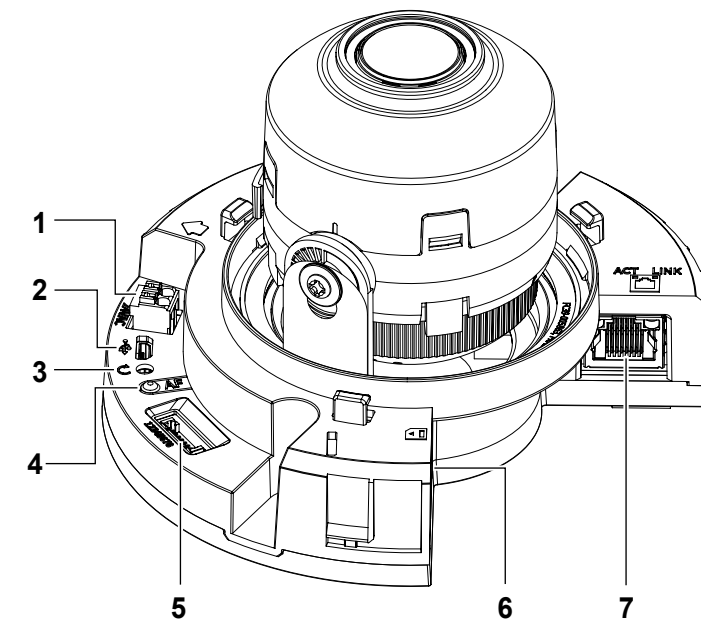
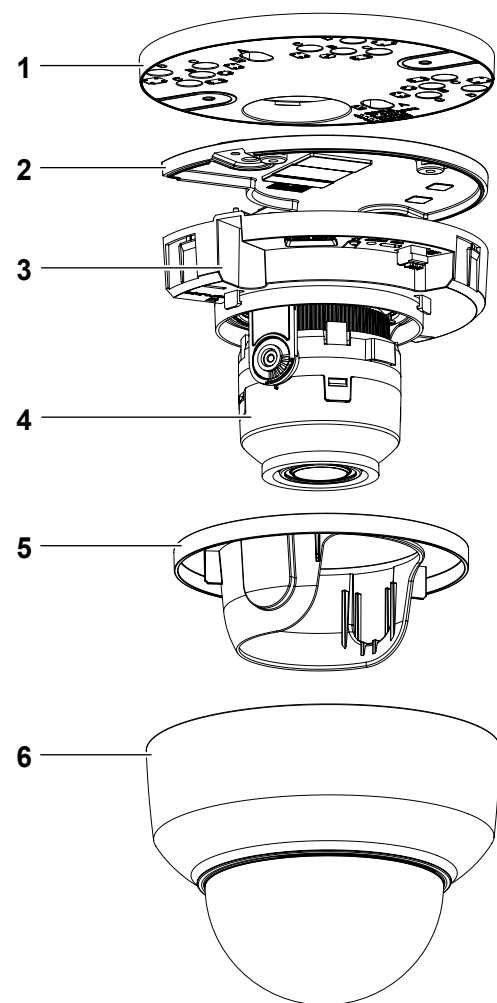

Figure 2
Figure 1
13. Hold the camera dome (6) (Figure 1) up to the camera base and rotate the camera dome to securely lock it to the camera base.
Camera buttons and connections: Figure 2
Camera Parts: Figure 1
5. Gently pull up and remove the camera lens cover (5) (Figure 1) to easily access the cable connections and buttons.
7. Before you secure the mounting plate (1) (Figure 1) to the camera base (2) (Figure 2) you must place the cable through the cable hole on the camera mounting plate.
12. Insert the camera lens cover (5) (Figure 1) on to the camera lens.
- Hold the camera dome (6) (Figure 1) with one hand and rotate the camera base (2) (Figure 1) to unlock it and remove it from the dome.
- Hold the camera dome (6) (Figure 1) up to the camera base (2) (Figure 1) and rotate the camera dome to securely lock it to the camera base.